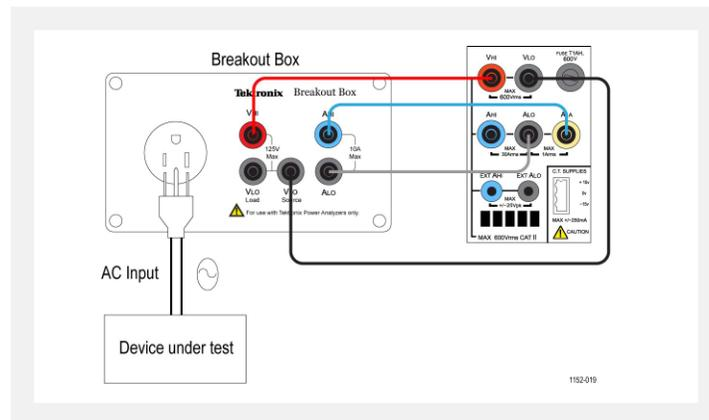

Figure 4-2. Standby power measurements wiring diagram.
1. Connect the DUT using Tektronix BB1000 Breakout Box (BB1000.) See wiring diagram Figure 4-2.